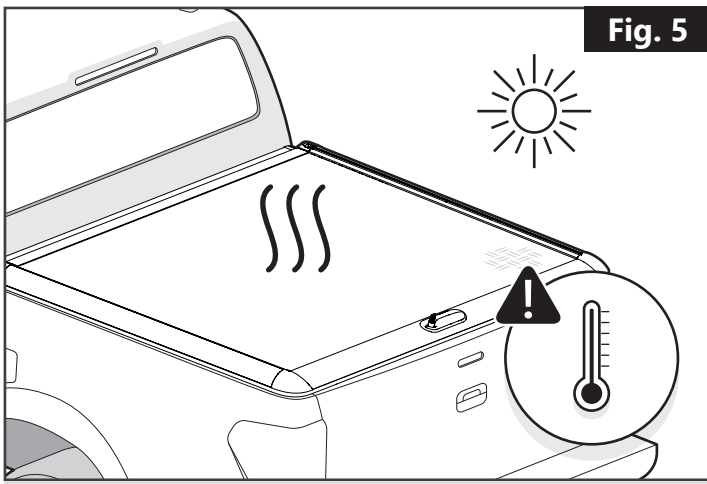

Fig. 5
- Temperatures can be very high under the cover when closed. **(Fig. 5)**